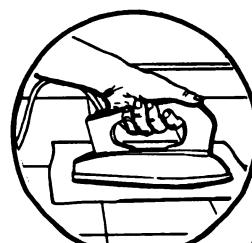

Fig. 1
1. Remove loose or damaged tile. A warm iron will help soften the adhesive. (Fig. 1.)